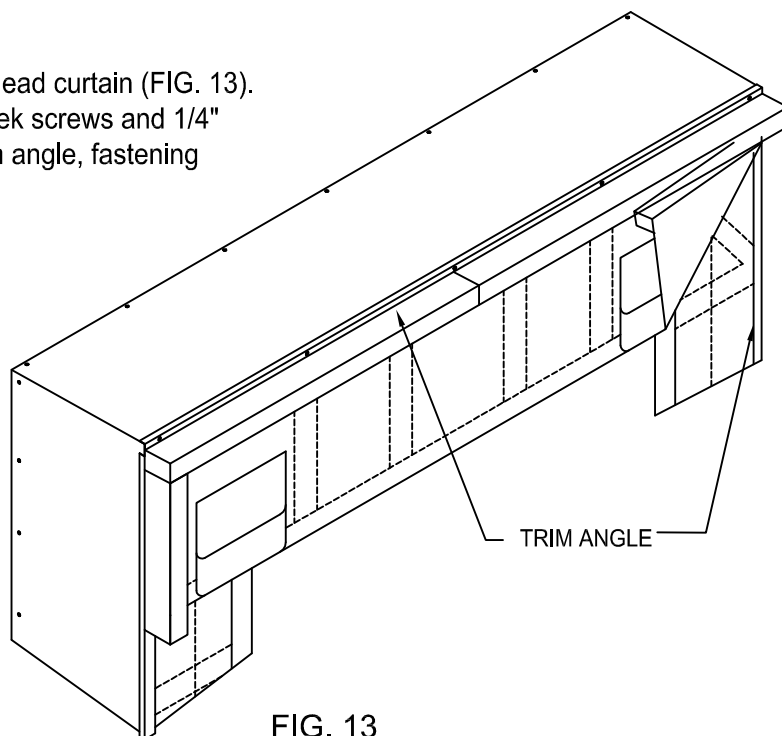

FIG. 13
- * Position trim angles over top edge of head curtain (FIG. 13).